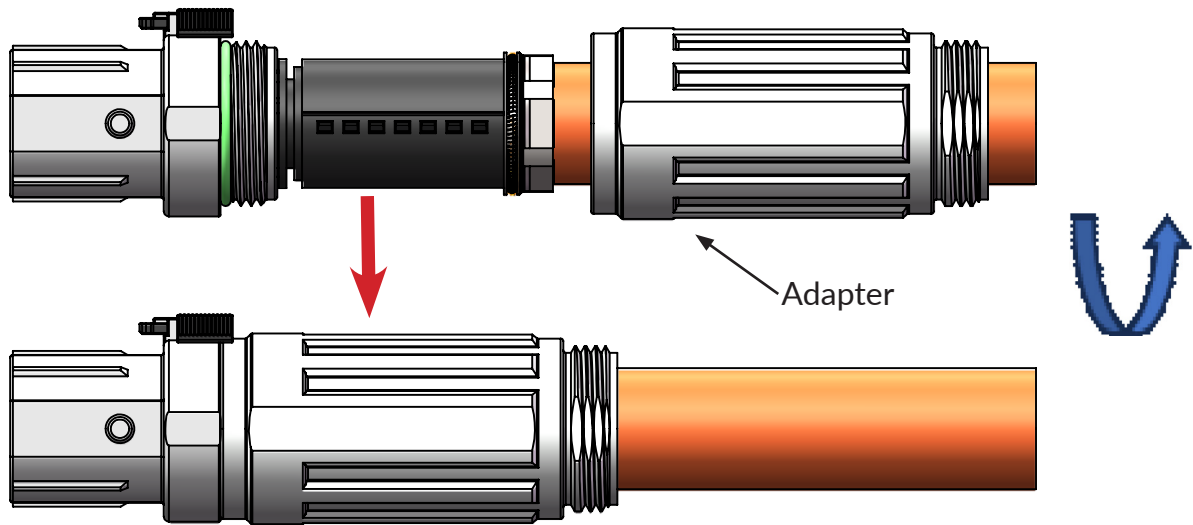

Figure 13
3) As figure 13 shown, tighten the adapter to plug shell with 36mm spanner, recommended torque is 8~10N.m;